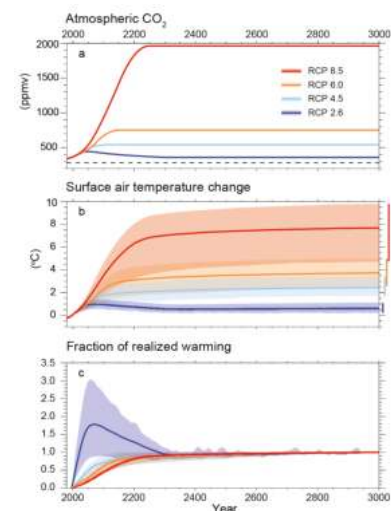

Figure 6.21: Climate model forecasts of the AR5 RCP's into the far future. From AR5 WG1 Figure 12.43.
- Substantial warming is already “locked in” for centuries, even if we immediately ramp down  $\text{CO}_2$  emission, since it takes centuries to remove  $\text{CO}_2$ . Figure 6.21 gives the longer-term forecasts for the 4 RCPs. In the “business as usual” scenario, less than half the total warming is accrued before 2100, and the ultimate temperature rise of 8 K (5–10 K range) is comparable to the difference between ice age and the current climate! Except that it goes the other direction (warmer) into temperature regimes that have not been seen in a million years!